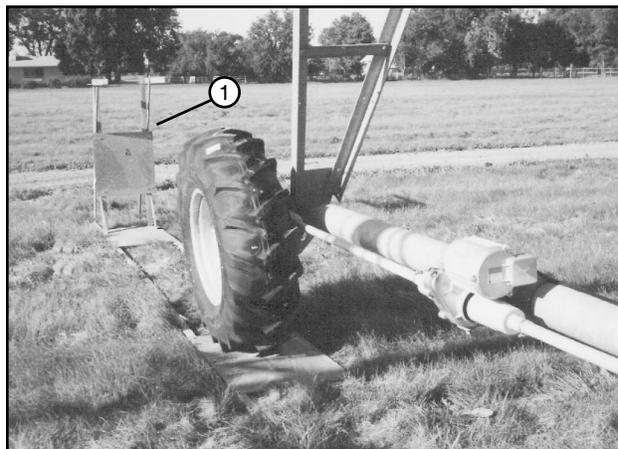

Figure 30-3 1. End of Field Stop Barricade
- PHYSICAL END OF FIELD STOP BARRICADES MUST BE INSTALLED ON ALL PART CIRCLE MACHINES. THE PHYSICAL BARRICADE SERVES AS A BACK UP IN CASE THE CIRCUITRY OF THE PIVOT MOUNTED AUTO REVERSE OPTION SHOULD EVER FAIL. SEE FIGURE 30-3.